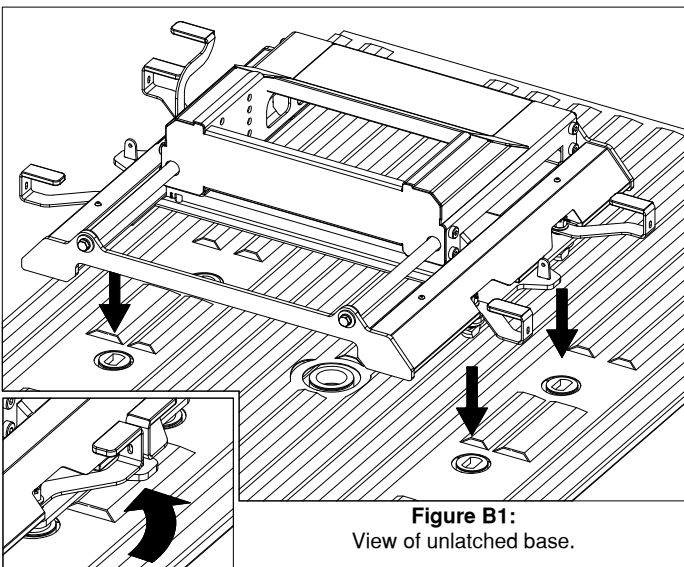

Figure B1:
- Remove the latch pins from each side of the base and rotate the handles out, see Figure B1. Place the base over the attachment points and carefully lower it until the latch cams pass through the floor and the base rests flat against the top of the attachment points.